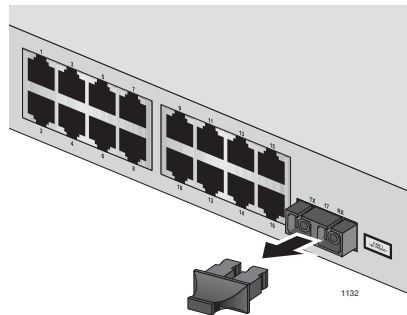

Figure 14. Removing the Dust Cover from a Dual SC Fiber Optic Port
1. Remove the dust cover from the fiber optic port, as shown in Figure 14.